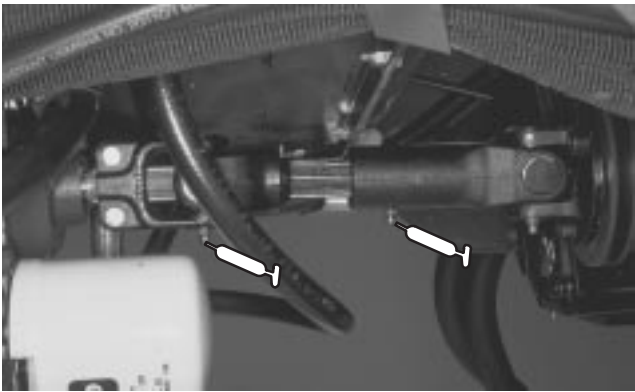
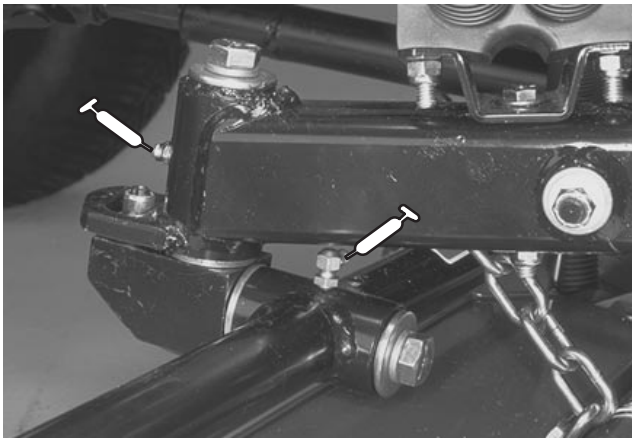

Figure 38
Figure 39
The grease fitting locations and quantities are: Engine Drive shaft (3), (Fig. 38); Cutting unit carrier frame and pivot (2 ea.), (Fig. 39); Lift arm pivots (5), Drive shaft clutch (1) (Fig. 40); Rear axle tie rod (2), Steering cylinder ball joints (2), Axle steering pivots (2) Rear axle pivot (1) (Fig. 41); Traction control linkage at transmission (1),